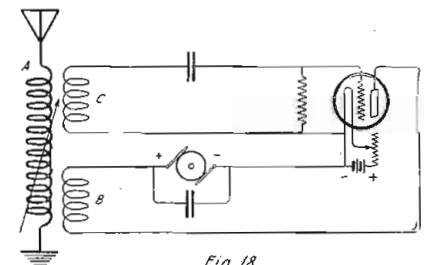

Fig. 18
*Typical Circuits Used.*—Various circuits have been used to excite an antenna by an oscillating triode. They are all nearly equally good if the proper adjustments are made for each case. Fig. 18 shows one in which the tube is not directly connected to